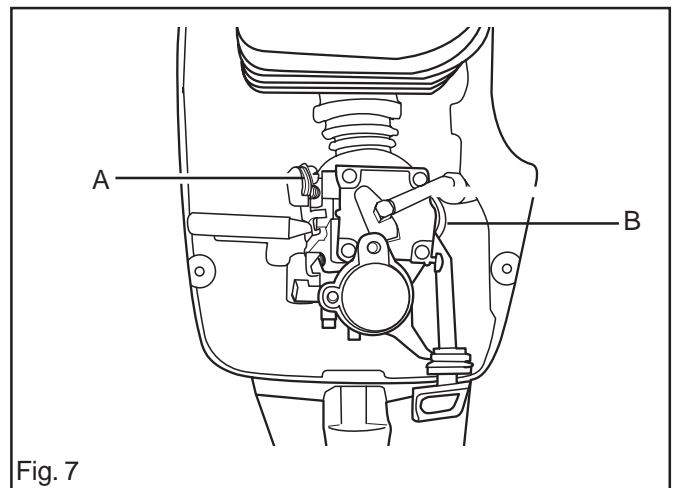

Fig. 7
10. Fit the fuel pipe (B) on the carburettor. See fig. 7.
11. Insert the throttle cable casing in the attachment and hook on the throttle cable (A) on the carburettor. See fig. 7.
Carbon build-up. Fig. 7